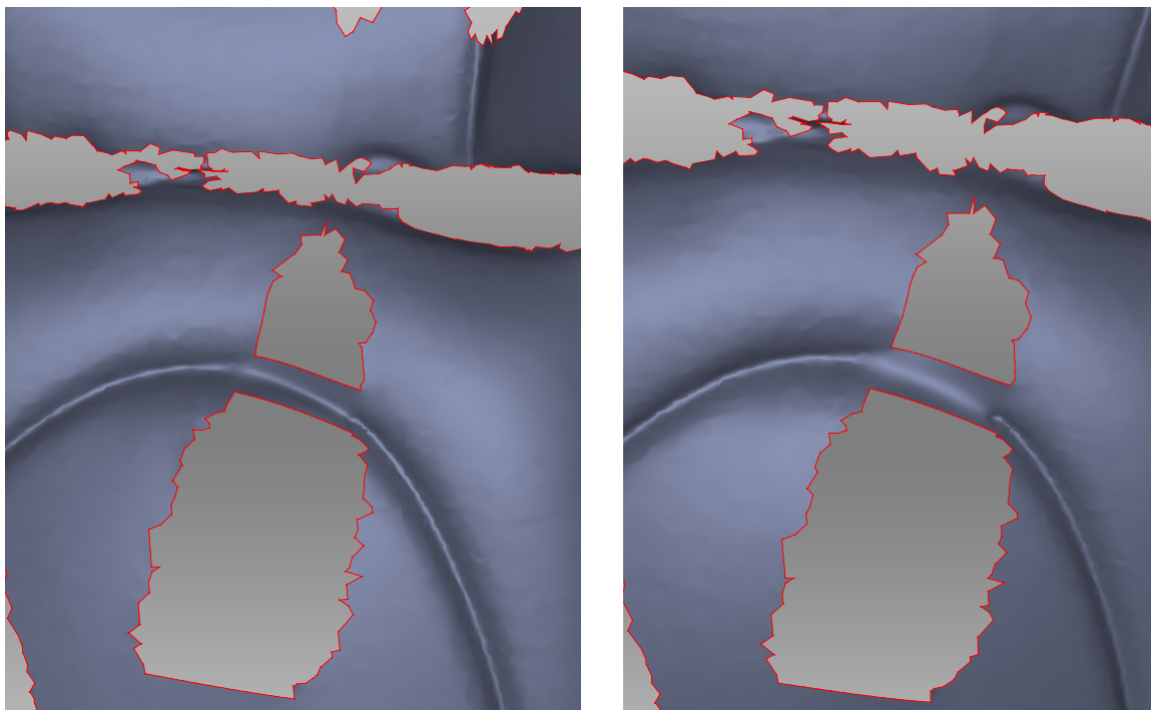

Figure 148: Small smoothness values on left and maximum on right.
- Use small or medium values of the *Bridge smoothness* slider (Figure 148).